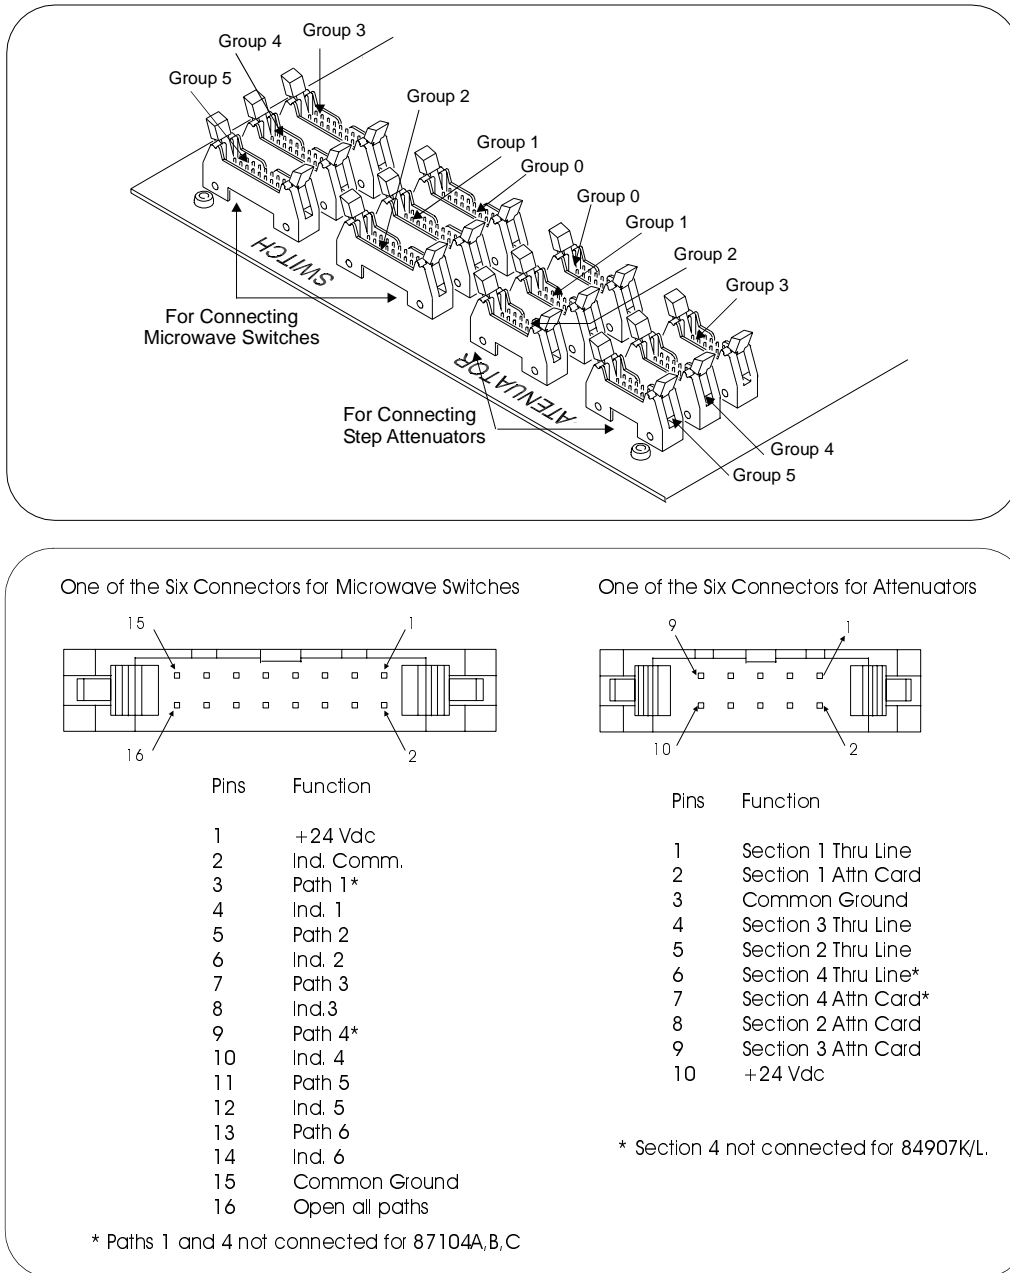

Figure 2-3. Group 0 - 5 Connectors Pinout
The six 16-pin ribbon cable connectors (Groups 0-5) on the PC board of the E8483A module accommodate the need for connecting microwave switches, and six 10-pin ribbon cable connectors (Groups 0-5) for connecting step attenuators. See Figure 2-3 for these connectors location and pinout information. In addition, the ribbon cables are also provided along with the module, which makes the connections more easily.
- Microwave switches can be either installed on, or externally connected to the module via 16-pin ribbon cables. One end with the female connector is for connecting to the driver board, and the other end with male connector is for connecting to the switch. See Figure 2-3 for more information on the connectors pinout. Note that only three switches can be installed on the module.
- Attenuators can be externally connected to the module via 10-pin ribbon cables. One end with the female connector is for connecting to the driver board, and the other end with male connector is for connecting to the attenuator. See Figure 2-3 for more information on the connectors pinout.